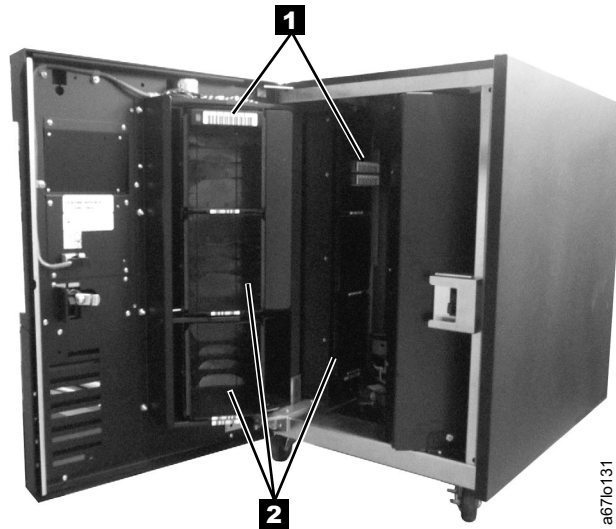

Figure 22. Removing cartridges and magazines
3. Remove all of the cartridges **1** and magazines **2** from the storage columns within the library (see Figure 22). To remove a magazine, grasp the tabs at its corners and pull the magazine toward you.